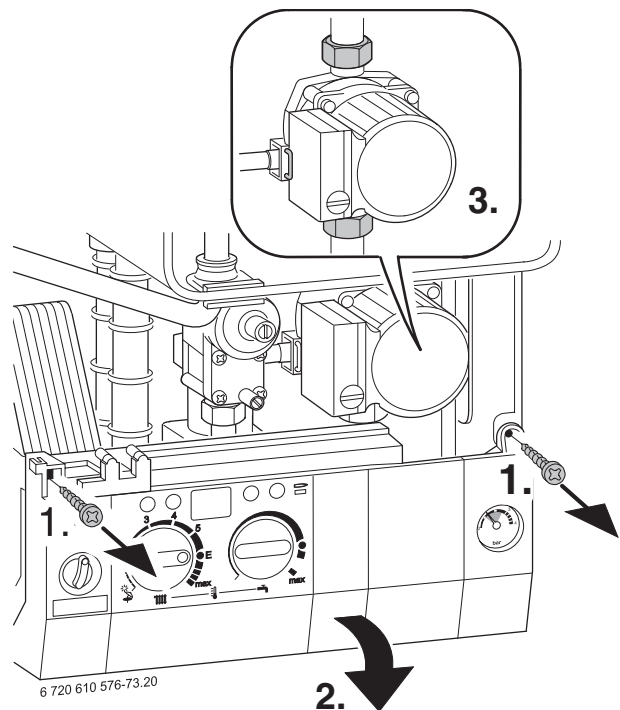

Fig. 63
- ▶ Remove two switchbox fixing screws (1.). Refer to fig. 63.
- ▶ Unscrew the pump union nuts (3). Refer to fig. 63.
- ▶ Lower the control panel. Refer to fig. 63.
- ▶ Lower the facia. Refer to fig. 63.